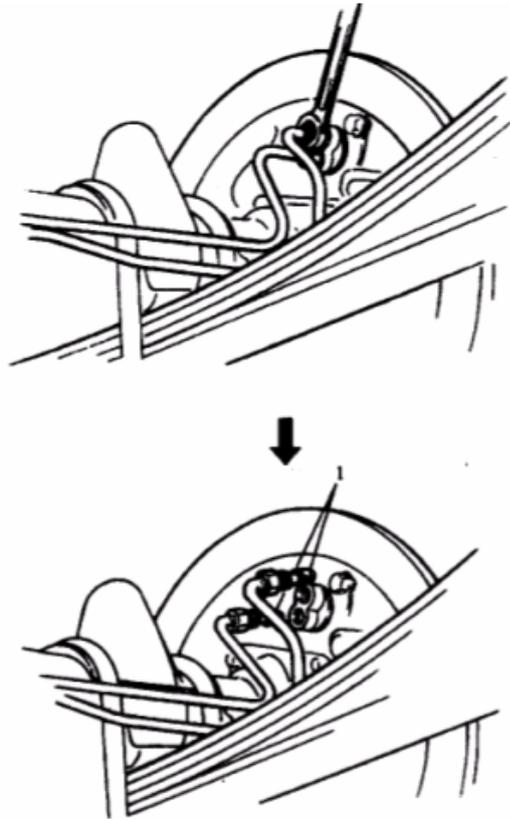

FIG 13-7:1-Rubber plug
(10) Suck brake fluid from brake reservoir by using injector and disconnect brake pipes and wheel cylinder. Insert rubber plug into pipes to avoid fluid outflow. (FIG.13-7)